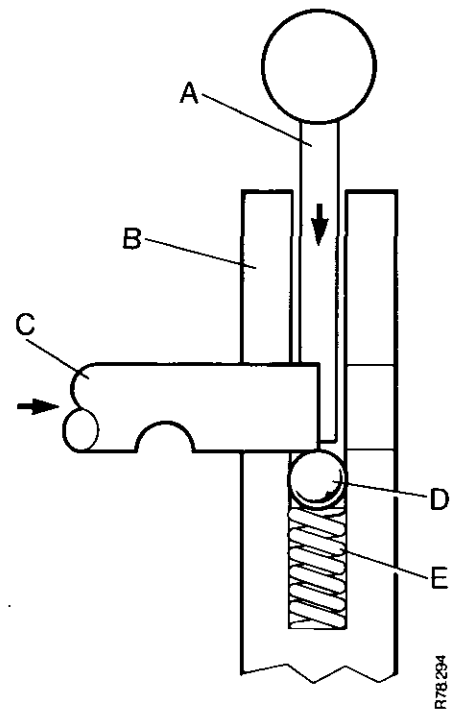

FIGURE 68. INSTALLING THE DETENT BALLS
- (a) Enter the first/reverse selector rod in the front end plate and install the detent ball. Use the tool as shown in Figure 68.